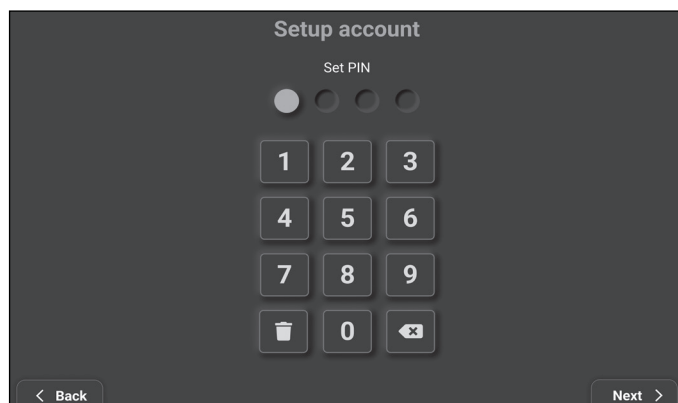

Figure 16
5. Create a new PIN (**Fig. 16**).